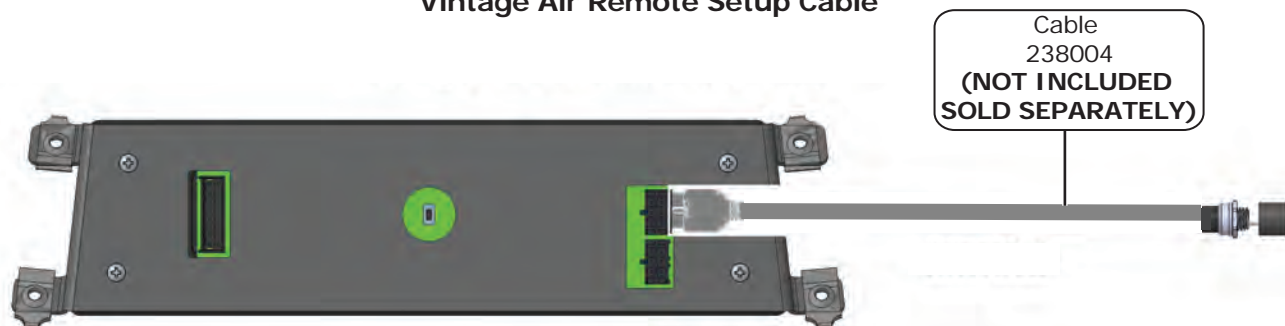

Figure 1
- The optional Remote Setup Cable serves the same purpose as the push-button switch on the back of the control panel with the added benefit of being able to mount in a convenient location (See Figure 1, below).